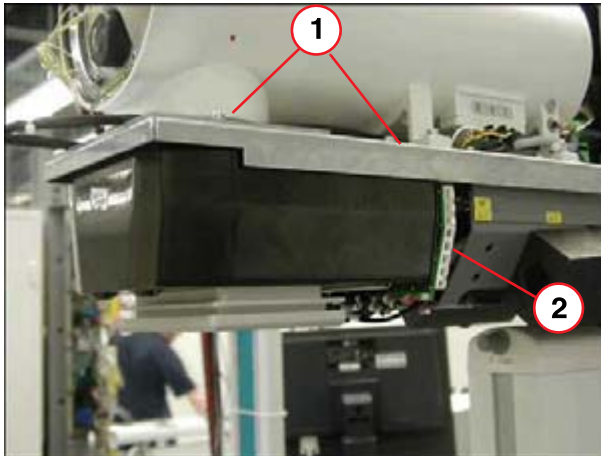
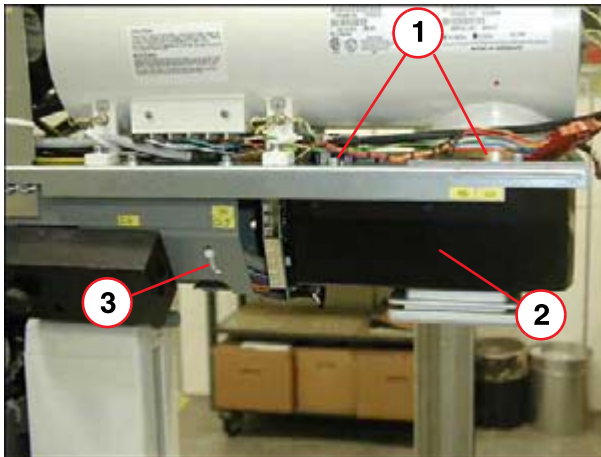
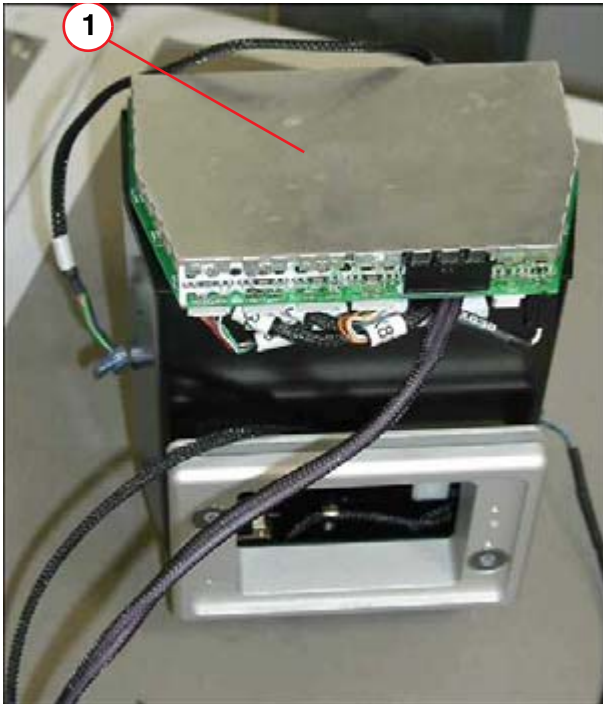

Fig. 18: Tube assembly with collimator
Fig. 19: Tube assembly support
Fig. 20: Collimator
- Cut the cable tie (3/Fig. 19 / p. 43).
- Remove the cables between the collimator and D805. For this, unplug connectors X894/X895 on board D805 and connector X832/X837 on board D814 (Fig. 19 / p. 43).
- Remove the 4 screws M5x14 ((1/Fig. 18 / p. 43) and (1/Fig. 19 / p. 43)). The collimator can be removed from the tube assembly support (Fig. 20 / p. 44).
- Remove the shielding plate from board D184 (1/ Fig. 20 / p. 44).
- Insert the shielding plate on board D814 (1/Fig. 20 / p. 44).
- Mount the collimator with board D814 on the tube assembly support using the 4 screws M5x14. ((1/Fig. 18 / p. 43) and (1/Fig. 19 / p. 43)).
- Secure the cables via a cable tie. (3/Fig. 19 / p. 43)